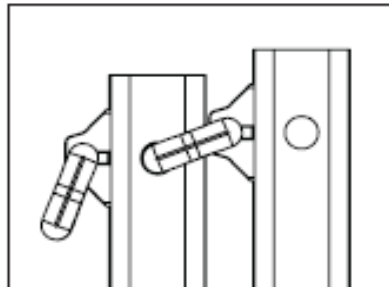
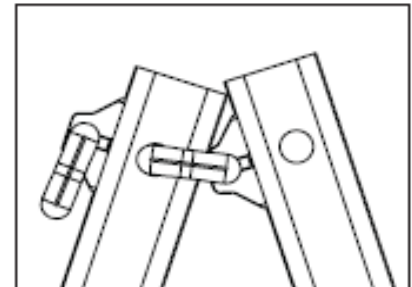

Figure 6
Figure 7
- 4) Lower the outer ladder section with the disengaged "J" locks (See Figure 6) while spreading the two sections apart to form the second trestle required for the scaffold position. See Figure 7.